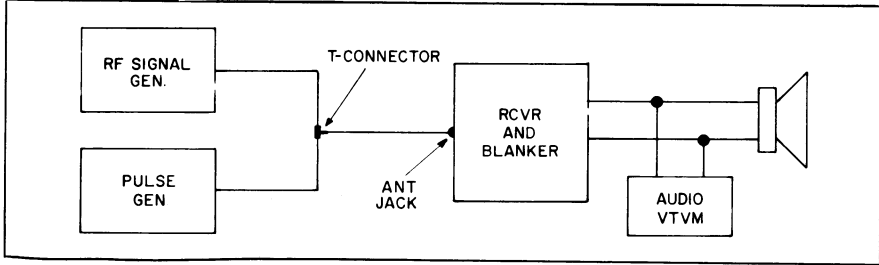

Figure 1 - Equipment Connection Diagram RC-1388
1. Connect Pulse Generator and RF Signal Generator to receiver antenna jack through a T-connector and connect VTVM to receiver output as shown in Figure 1.